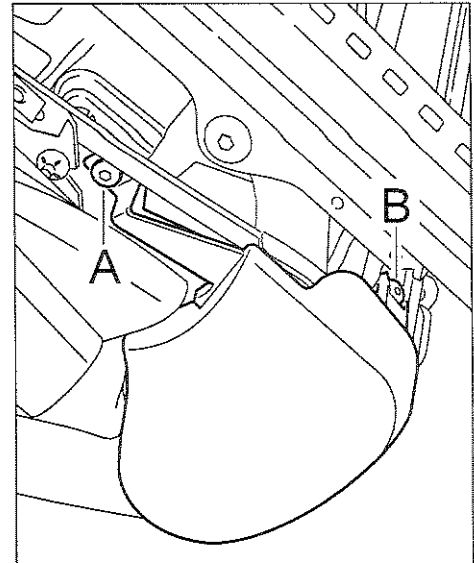

Figure 5
- 2.1.4 Swivel control module trim panel downward until front screw ⇒ *Figure 5 -A-* of backrest cover is accessible.
- 2.1.5 Remove screws ⇒ *Figure 5 -A and B-*.